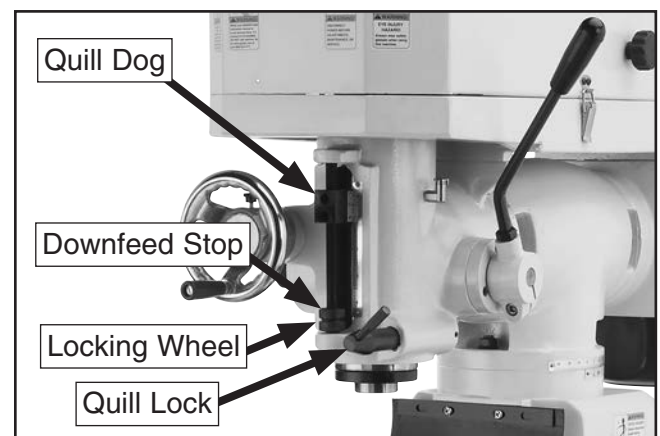

Figure 36. Location of downfeed stop controls.
2. Rotate downfeed stop until it contacts quill dog, then tighten locking wheel against stop to secure it (see **Figure 36**).
3. Release quill lock and raise quill (see **Figure 36**).